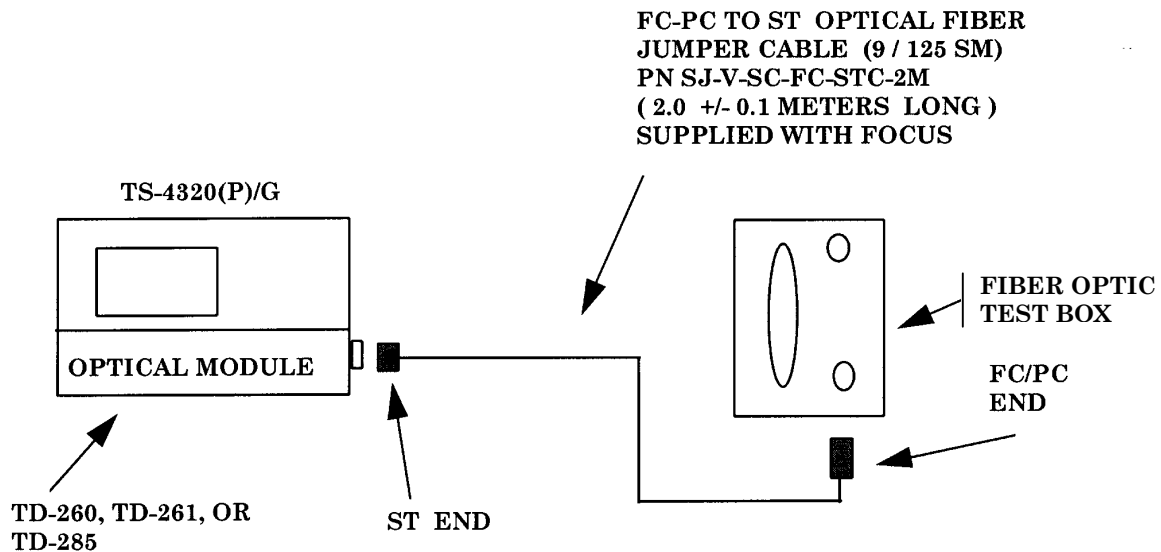

Figure 18. Equipment setup with fiber optic test box used to establish reference cursor position.
- a. Connect equipment as shown in figure 18.